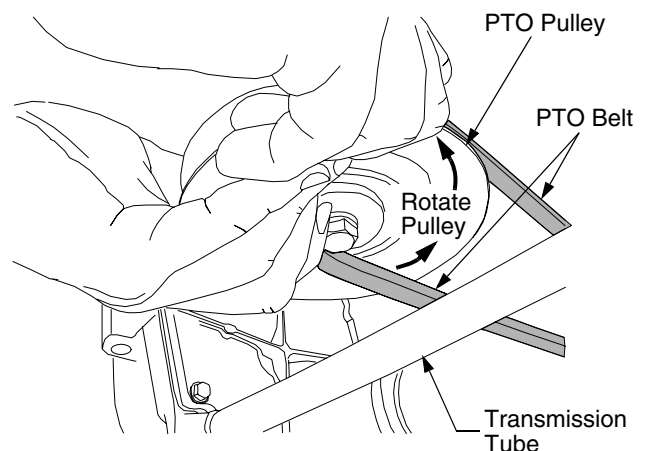

Figure 32
- Pull the right side of the belt rearward and place the narrow V side of the belt into the TO pulley. See Figure 32.
- While holding the belt and pulley together, rotate the pulley to the left (See Figure 32). Continue holding and rotating the pulley and belt until the belt is fully rolled into the PTO pulley. **NOTE:** If using the left side of the belt, turn the pulley to the right.